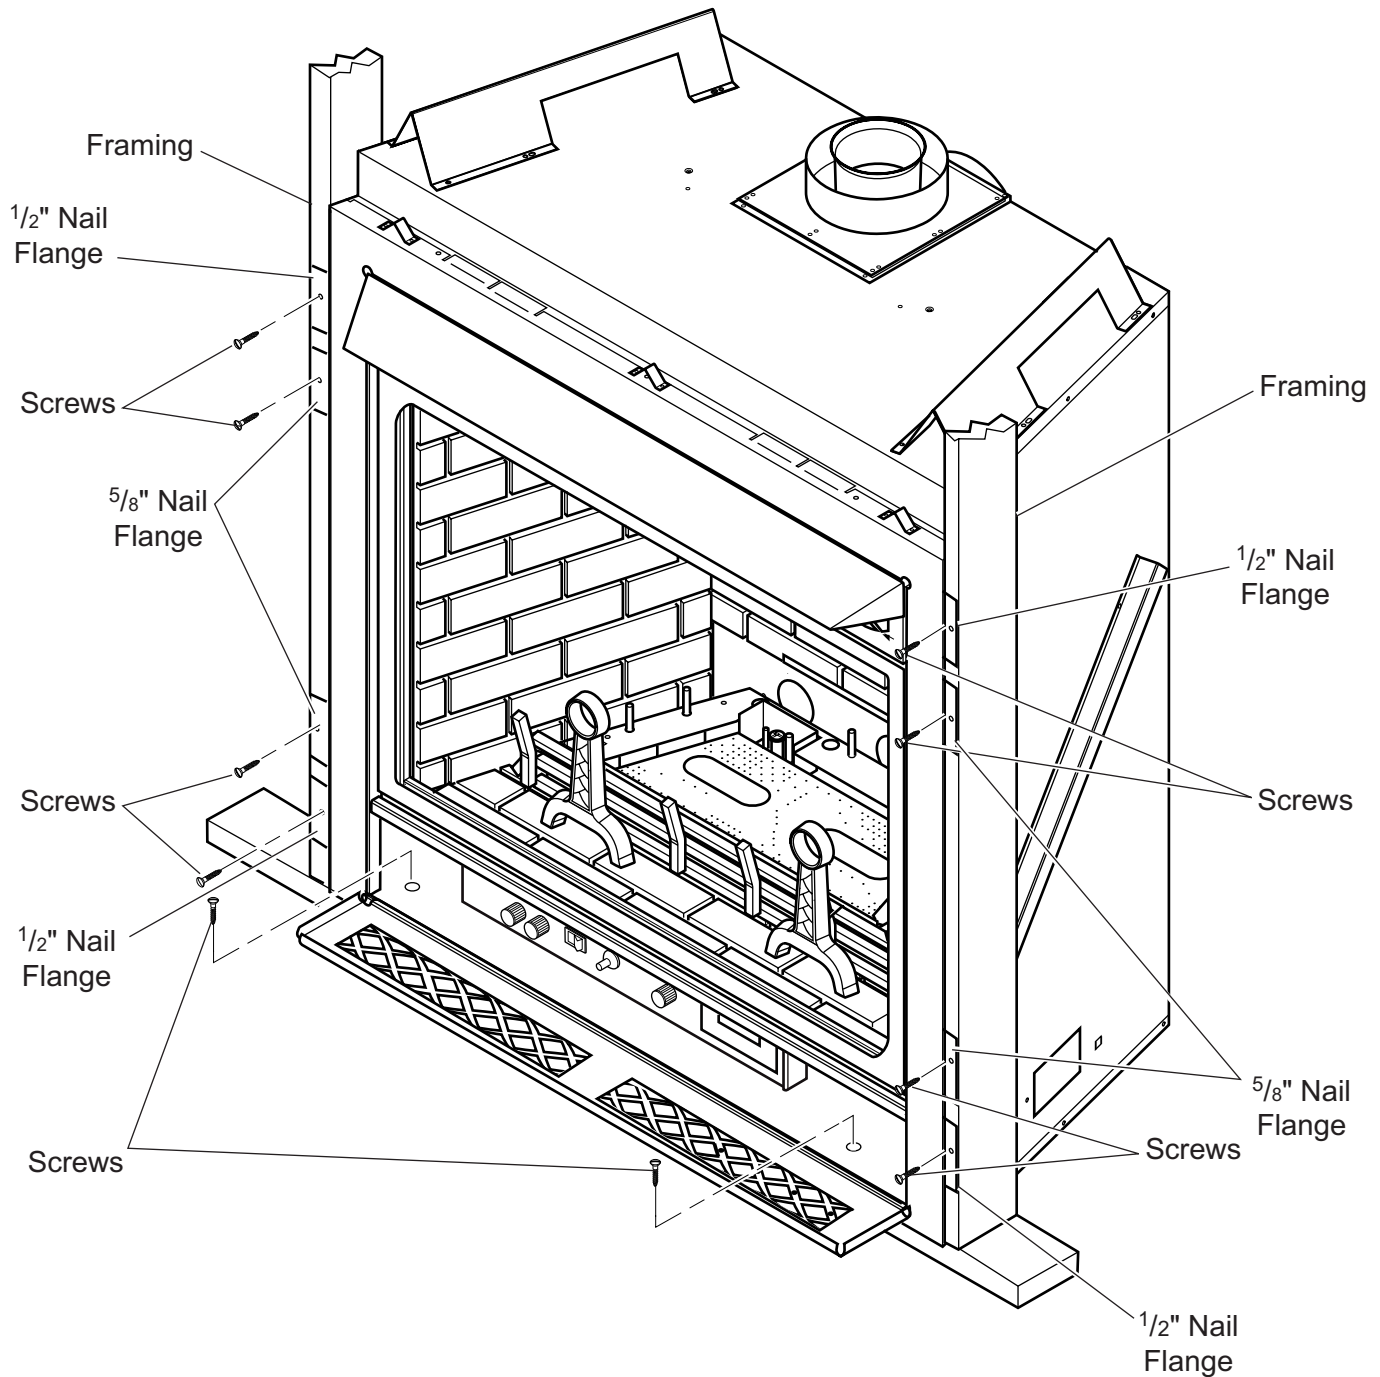

Figure 6 - Securing Fireplace to Floor and Framing Studs
The fireplace must be secured to the floor and/or to framing studs as shown in *Figure 6*. Use two (2) wood screws or masonry/concrete screws to secure fireplace to the floor. Use four (4) screws to attach fireplace to framing. The side brackets are adjustable from 1/2" to 5/8" to accommodate different thickness of material.